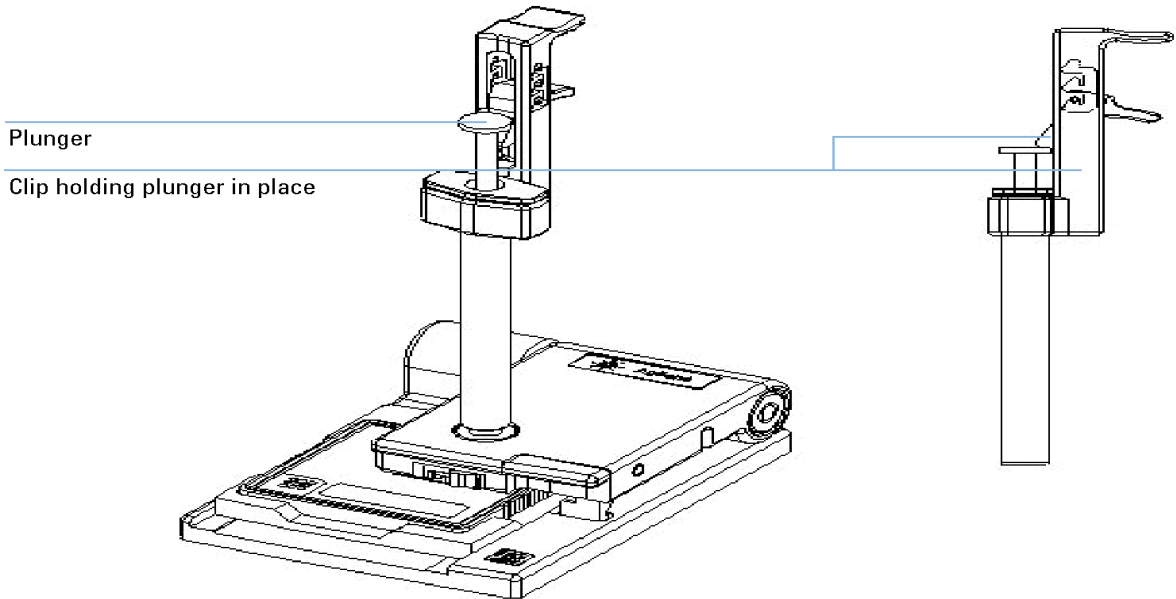

Figure 8 Locking the plunger of the syringe with the clip
- 5 Press the plunger down until it is locked by the clip. This is shown in Figure 8 on page 172.